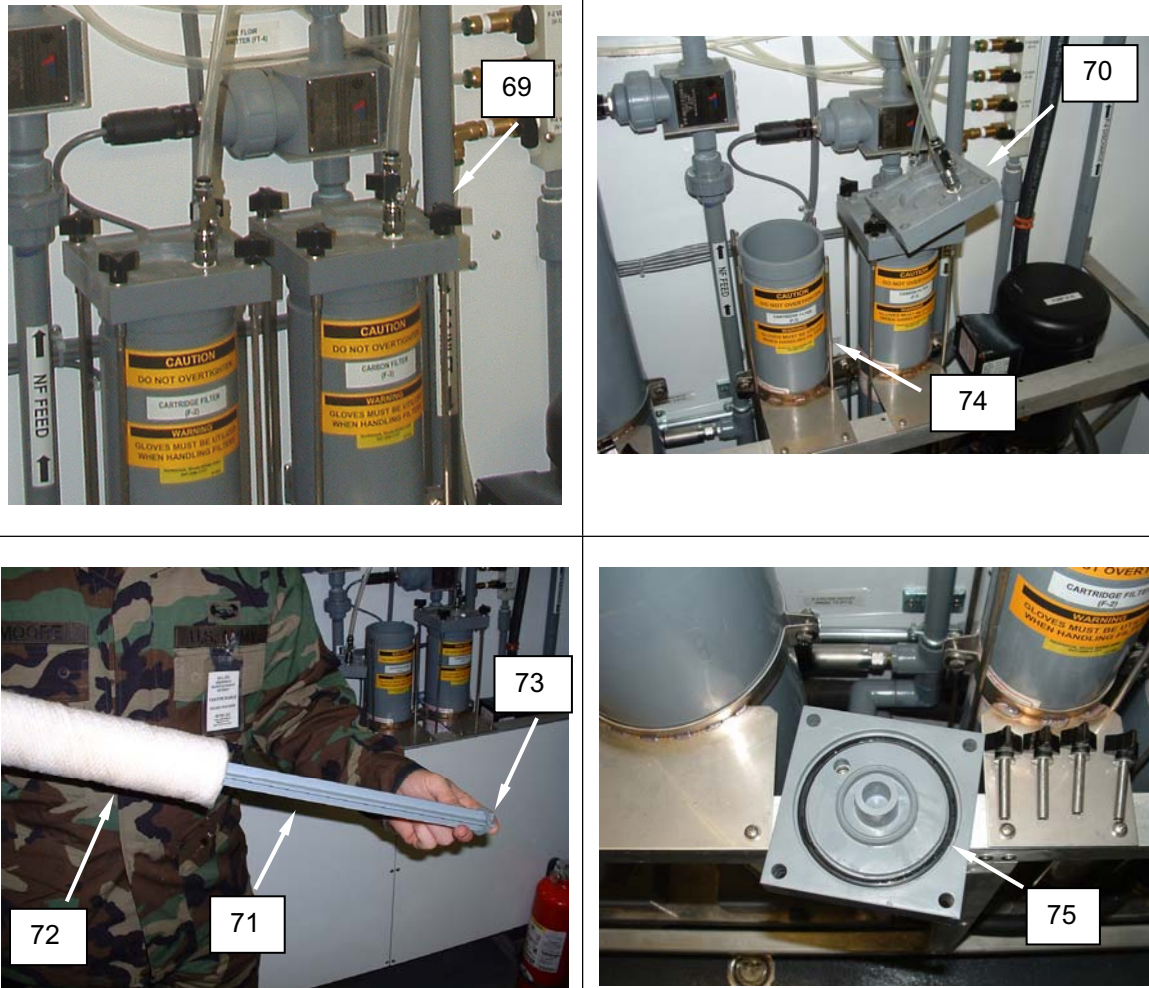
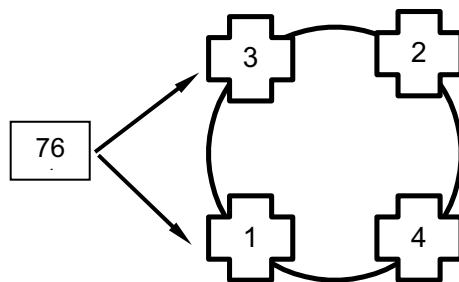

Figure 23. Replace the F-2 Filter Cartridge.
Figure 24. Filter Retaining Knob Tightening Sequence.
1. Remove four thumbscrews (**Figure 23, item 69**), and remove the filter cover (**Figure 23, item 70**).
2. Install the filter support (**Figure 23, item 71**) into the filter cartridge (**Figure 23, item 72**).
3. Wet the filter cartridge (**Figure 23, item 72**), and install the filter cartridge into the filter housing.
Do not drop filter cartridge into filter housing. Dropping cartridge may chip filter support washer (**Figure 23, item 73**).
4. Carefully guide the filter cartridge and filter support (**Figure 23, item 71**) into the filter housing (**Figure 23, item 74**) allowing filter support to drop down into the filter housing.
5. Inspect o-ring (**Figure 23, item 75**) and lubricate as needed.
6. Install filter cover (**Figure 23, item 70**), and fasten access cover in place with the two back (3,2) thumbscrews (**Figure 24, item 76**). Tighten until resistance is met. Tighten the two front (1,4) thumbscrews (**Figure 24, item 76**) until resistance is met (balancing the tightening sequence). Go back and securely tighten the thumbscrews (**Figure 24, item 76**).